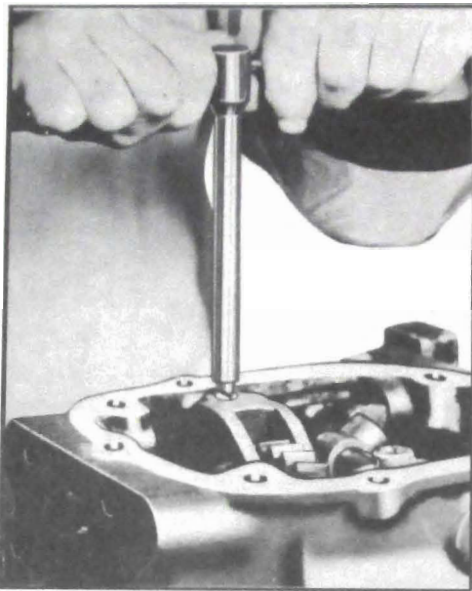

Figure 4-30—Removing Set Screw with Remover J 2895
3. Remove the four set screws from shifter levers and shifter yokes, using Remover J 2895. See figure 4-30.